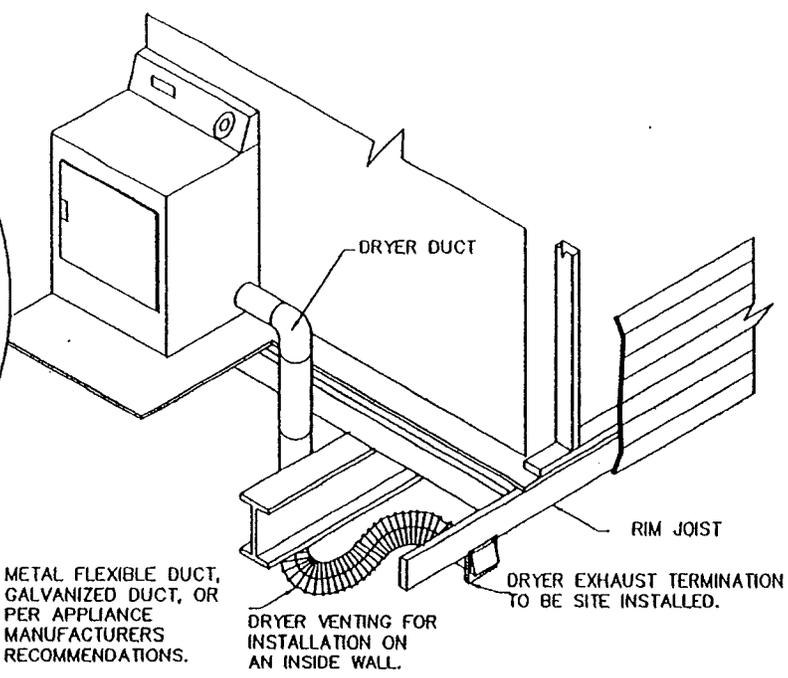

FIGURE 6-6
**6-7.2** An access panel is located in the dryer area to provide access to the dryer end of the duct system. See Figures 6-6 and 6-7.
**6-7.4** The exhaust system shall be completed on site as shown with materials provided by the owner. See Figures 6-6 and 6-7.